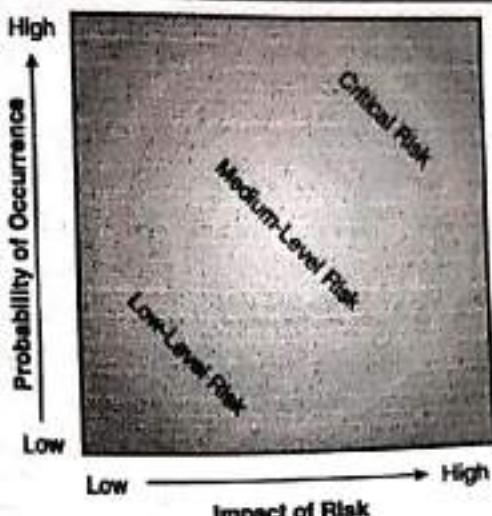

Fig. 4.15.2 : Risk Impact/Probability Chart
- The basic form of the Risk Impact/Probability Chart is shown in Fig. 4.15.2.